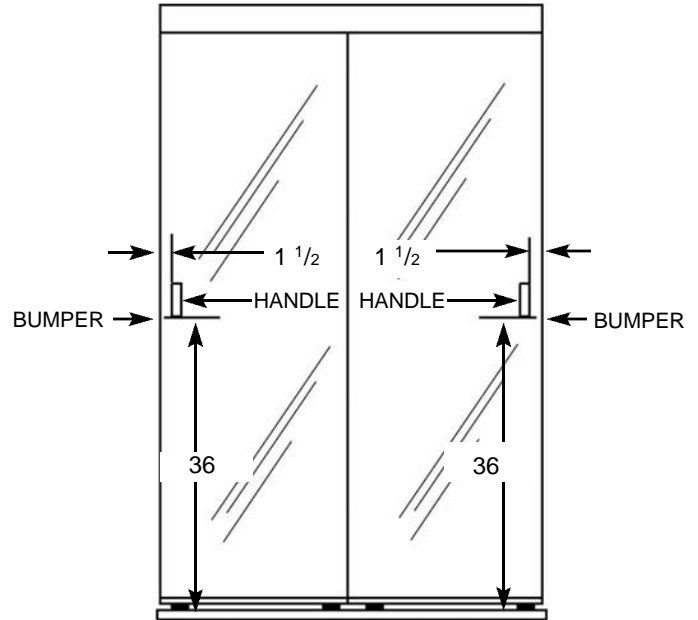

Figure 5
Peel paper off the back of the clear Plastic Bumpers (#9) and place on the edge of the panel frame 36 up from the bottom. The Clear Plastic Bumpers (#9) will cushion and protect the door and wall when you close the Wardrobe Doors (See Figure 5).
- A. Clean mirror in the area where the Mirror Handles (#8) will be applied. Peel paper off the back of the Mirror Handles (#8). Position each Mirror Handle (#8) 36" from the bottom of the Panel (#1) and 1 1/2" from Side Mold (#12) on each Panel (#1) (See Figure 5).